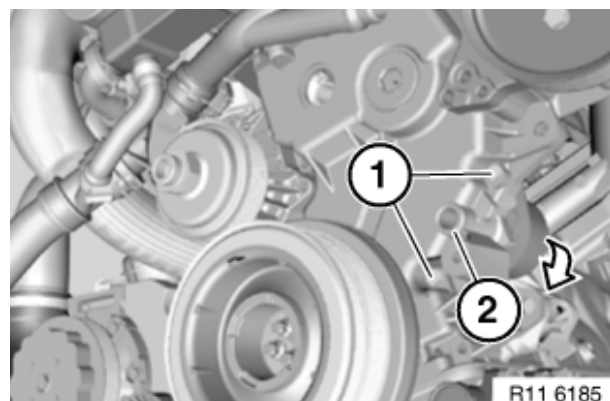

Figure 11-5
9. Remove bolts. Remove tensioner spring assembly (**Figure 11-5, (1)**) in direction of arrow.
10. Installation is done in reverse of removal. Install new seal (**Figure 11-5, (2)**).